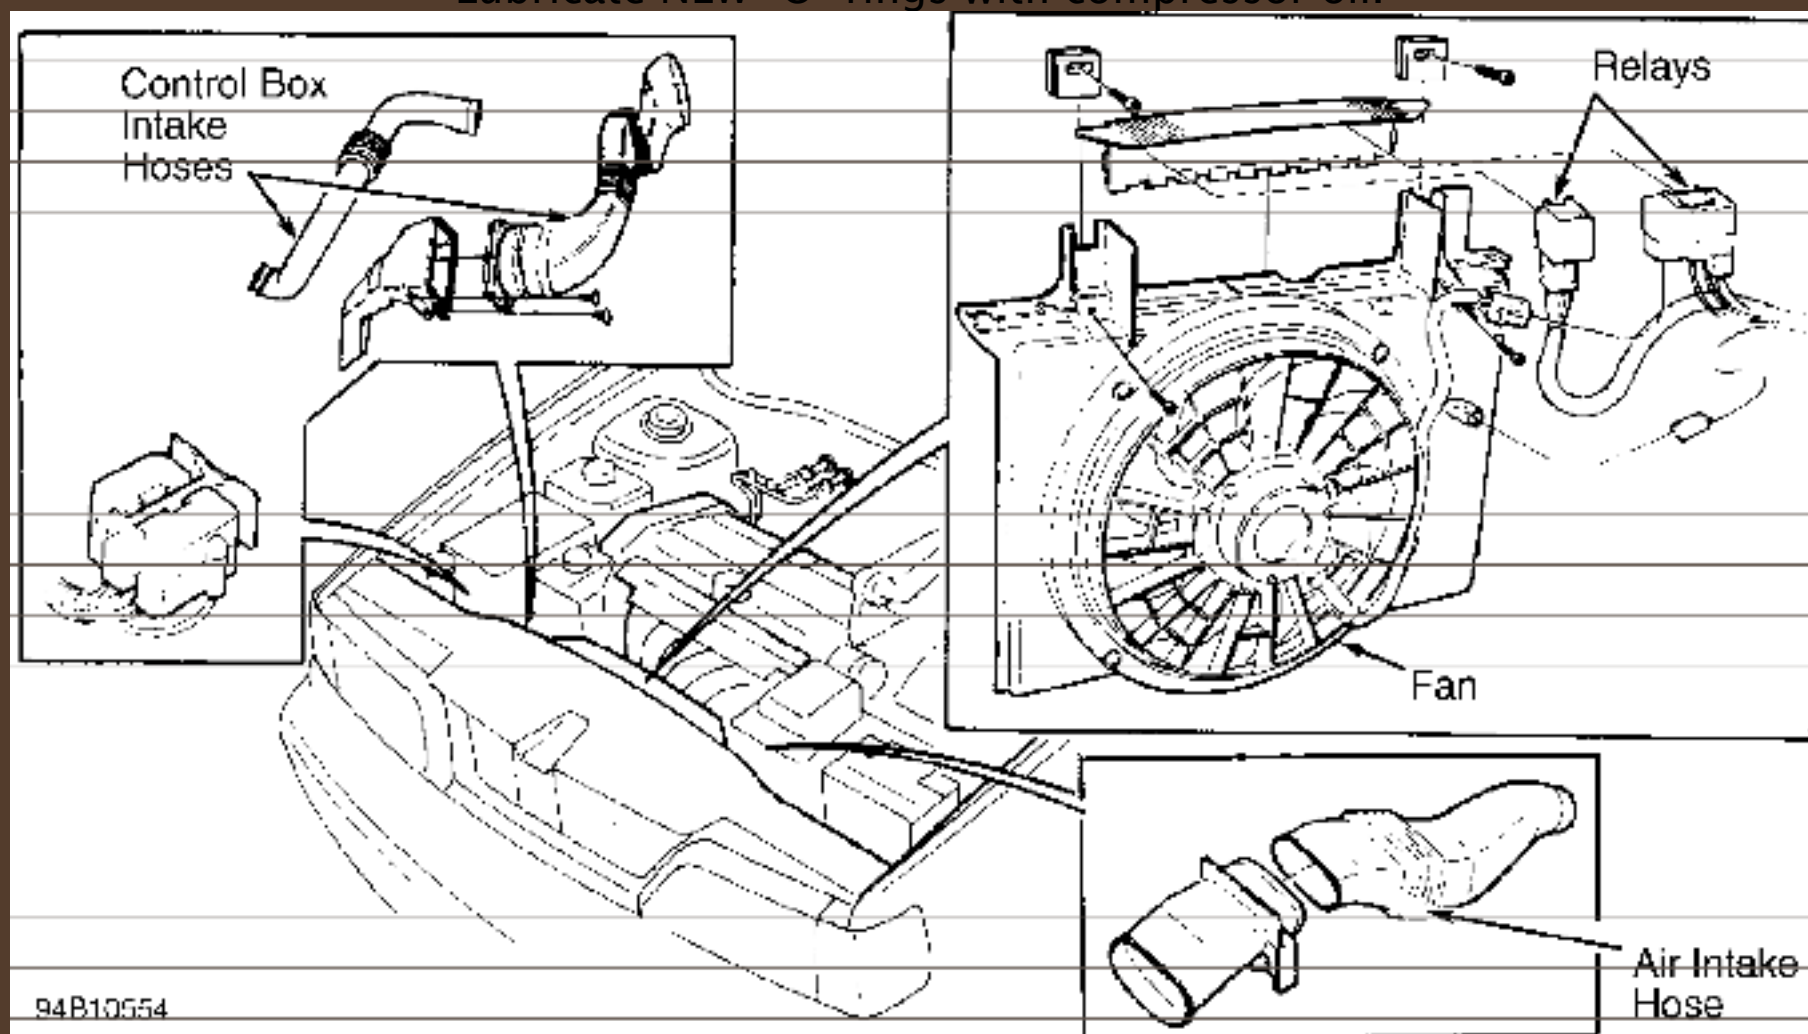

Fig. 18: Removing Cooling Fan Components
- 3) Remove 4 screws and fan cover. Remove relay shelf and spacers. Disconnect 2-pin connector from fan relay and connector from fan motor. Remove fan cover. See Fig. 18.
- 2) Remove Electronic Control Units (ECUs) from control unit box. Disconnect control unit box air intake hoses. Remove inlet hose connector to fan cover. Disconnect relays from relay casing. Remove 4 screws to disconnect fan cover, and fold cover back towards engine. Remove relay shelf and spacers. See Fig. 18.
Remove fan cover. See Fig. 18.